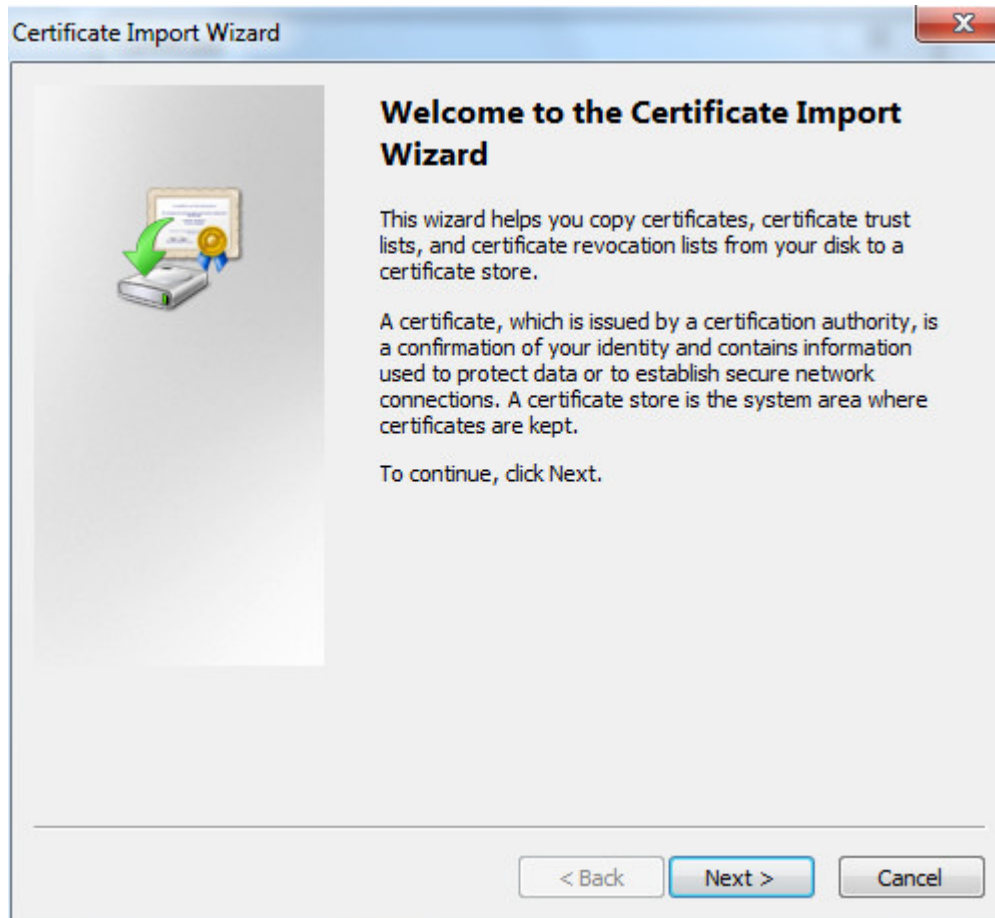

Figure 5-56
7. Click "Install Certificate" and it will pop out the interface of "Certificate Import Wizard", which is shown in Figure 5-56.